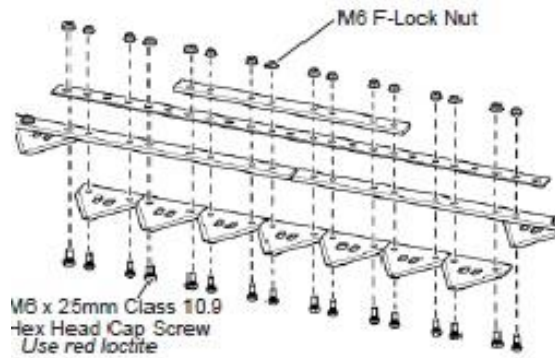

Figure 151
1. The connector bar is used to repair a broken knife back. The break should be cut out and ground smooth. A cutting section should bridge the break and the connector bar should be installed on the top of the knife back. Figure 151 Note: This is for the standard cutting system.